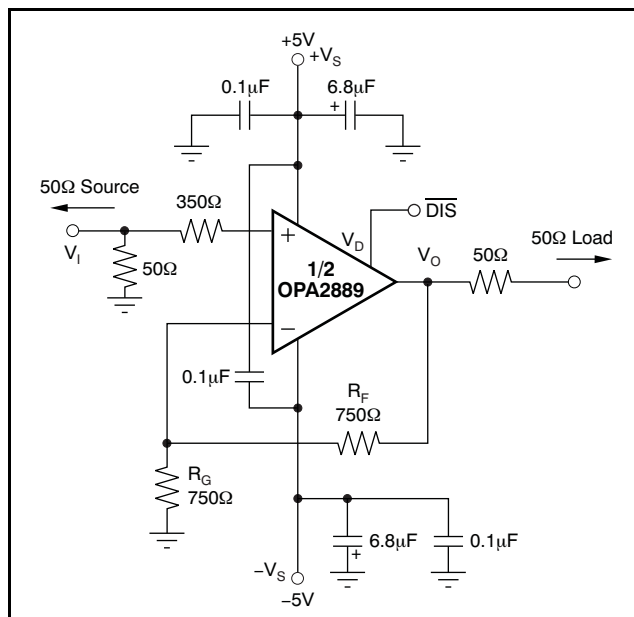
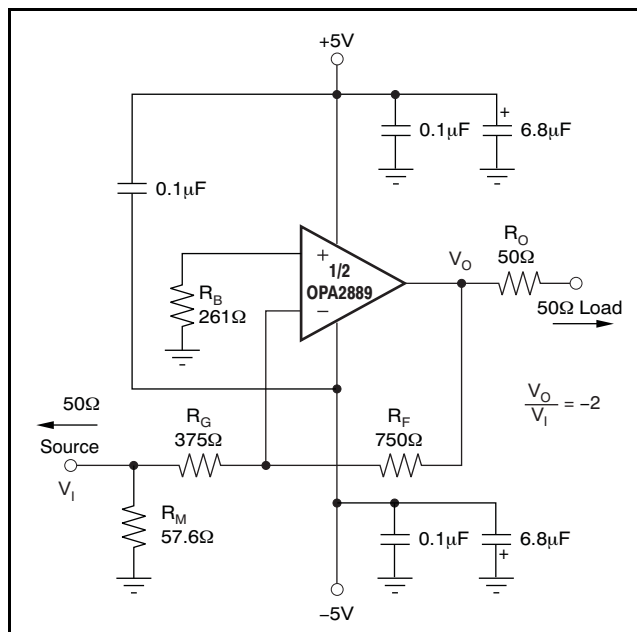

Figure 50. DC-Coupled, G = +2, Bipolar Supply, Specification and Test Circuit
Figure 60. Gain of –2V/V Example Circuit
At $T_A = +25^\circ C$, $G = +2V/V$, $R_F = 750\Omega$, and $R_L = 100\Omega$, unless otherwise noted. See Figure 50.
Figure 50 shows the dc-coupled, gain of +2V/V, dual power-supply circuit configuration used as the basis of the ±5V Electrical Characteristics and ±5V Typical Characteristics. This illustration is for one channel; the other channel is connected similarly. For test purposes, the input impedance is set to 50Ω with a resistor to ground and the output impedance is set to 100Ω. Voltage swings reported in the Electrical Characteristics are taken directly at the input and output pins, while output powers (dBm) are at the matched 50Ω load. For the circuit of Figure 50, the total effective load will be 100Ω || 1.5kΩ. The disable control line (MSOP-10 package only) is typically left open for normal amplifier operation. Two optional components are included in Figure 50. An additional resistor (350Ω) is included in series with the noninverting input. Combined with the 25Ω dc source resistance looking back towards the signal generator, this resistor gives an input bias current cancelling resistance that matches the 375Ω source resistance seen at the inverting input (see the DC Accuracy and Offset Control section). In addition to the usual power-supply decoupling capacitors to ground, a 0.1μF capacitor is included between the two power-supply pins. In practical printed circuit board (PCB) layouts, this optional-added capacitor typically improves the 2nd-harmonic distortion performance by 3dB to 6dB.
A good rule of thumb is to target the parallel combination of R_F and R_G (see Figure 50) to be less than approximately 400Ω. The combined impedance $R_F \parallel R_G$ interacts with the inverting input capacitance, placing an additional pole in the feedback network and thus, a zero in the forward response. Assuming a 2pF total parasitic on the inverting node, holding $R_F \parallel R_G < 400\Omega$ keeps this pole above 160MHz. By itself, this constraint implies that the feedback resistor R_F can increase to several kΩ at high gains. This increase in resistor size is acceptable as long as the pole formed by R_F and any parasitic capacitance appearing in parallel is kept out of the frequency range of interest.
Voltage-feedback op amps exhibit decreasing closed-loop bandwidth as the signal gain increases. In theory, this relationship is described by the Gain Bandwidth Product (GBP) shown in the Electrical Characteristics. Ideally, dividing GBP by the noninverting signal gain (also called the Noise Gain, or NG) predicts the closed-loop bandwidth. In practice, this principle only holds true when the phase margin approaches 90°, as it does in high gain configurations. At low gains (increased feedback factors), most amplifiers exhibit a more complex response with lower phase margin. The OPA2889 is compensated to give a slightly peaked response in a noninverting gain of 2V/V (see Figure 50). This compensation results in a typical gain of +2V/V bandwidth of 60MHz, far exceeding that predicted by dividing the 75MHz GBP by 2. Increasing the gain causes the phase margin to approach 90° and the bandwidth to more closely approach the predicted value of (GBP/NG). At a gain of +10, the 8MHz bandwidth shown in the Electrical Characteristics agrees closely with that predicted using the simple formula and the typical GBP of 75MHz.
The frequency response in a gain of +2V/V may be modified to achieve exceptional flatness simply by increasing the noise gain to 2.5V/V. One way to modify the response without affecting the +2V/V signal gain, is to add a 750Ω resistor across the two inputs, as shown in the circuit of Figure 50. A similar technique may be used to reduce peaking in unity-gain (voltage follower) applications. For example, by using a 750Ω feedback resistor along
The OPA2889 is a general-purpose, wideband, voltage-feedback op amp; therefore, all of the familiar op amp application circuits are available to the designer. Inverting operation is one of the more common requirements and offers several performance benefits. See Figure 60 for a typical inverting configuration where the I/O impedances and signal gain from Figure 50 are retained in an inverting circuit configuration.
In the inverting configuration, three key design considerations must be noted. The first is that the gain resistor (R_G) becomes part of the signal channel input impedance. If input impedance matching is desired (which is beneficial whenever the signal is coupled through a cable, twisted-pair, long PCB trace, or other transmission line conductor), R_G may be set equal to the required termination value and R_F adjusted to give the desired gain. This consideration is the simplest approach and results in optimum bandwidth and noise performance. However, at low inverting gains, the resultant feedback resistor value can present a significant load to the amplifier output. For an inverting gain of –2V/V, setting R_G to 50Ω for input matching eliminates the need for R_M but requires a 100Ω feedback resistor. This approach has the interesting advantage that the noise gain becomes equal to 2V/V for a 50Ω source impedance—the same as the noninverting circuits considered in Figure 60. The amplifier output, however, now sees the 100Ω feedback resistor in parallel with the external load. In general, the feedback resistor should be limited to the 200Ω to 1.5kΩ range. In this case, it is preferable to increase both the R_F and R_G values (see Figure 60), and then achieve the input matching impedance with a third resistor (R_M) to ground. The total input impedance becomes the parallel combination of R_G and R_M .
The second major consideration, touched on in the previous paragraph, is that the signal source impedance becomes part of the noise gain equation and influences the bandwidth. For the example in Figure 60, the R_M value combined in parallel with the external 50Ω source impedance yields an effective driving impedance of $50Ω \parallel 57.6Ω = 26.7Ω$. This impedance is added in series with R_G for calculating the noise gain (NG). The resulting NG is 2.86V/V for Figure 60, as opposed to only 2V/V if R_M could be eliminated as discussed above. Therefore, the bandwidth is slightly lower for the gain of –2V/V circuit of Figure 60 than for the gain of +2V/V circuit of Figure 50.
The third important consideration in inverting amplifier design is setting the bias current cancellation resistor on the noninverting input (R_B). If this resistor is set equal to the total dc resistance looking out of the inverting node, the output dc error, as a result of the input bias currents, is reduced to (Input Offset Current) $\times R_F$. If the 50Ω source impedance is dc-coupled in Figure 60, the total resistance to ground on the inverting input is 402Ω.
The OPA2889 provides good distortion performance into a 200Ω load on $\pm 5V$ supplies. Relative to alternative solutions, it provides exceptional performance into lighter loads and/or operating on a single +5V supply. Generally, until the fundamental signal reaches very high frequency or power levels, the 2nd-harmonic dominates the distortion with a negligible 3rd-harmonic component. Focusing then on the 2nd-harmonic, increasing the load impedance improves distortion directly. Remember that the total load includes the feedback network; in the noninverting configuration (see Figure 50), this total is the sum of $R_F + R_G$, while in the inverting configuration it is just R_F . Also, providing an additional supply-decoupling capacitor ($0.1\mu F$) between the supply pins (for bipolar operation) improves the 2nd-order distortion slightly (3dB to 6dB). Operating differentially also lowers 2nd-harmonic distortion terms (see the plot on the front page).
Evaluating these two equations for the OPA2889 circuit and component values (see Figure 50) gives a total output spot noise voltage of 18.2nV/√Hz and a total equivalent input spot noise voltage of 9.1nV/√Hz. This total includes the noise added by the bias current cancellation resistor (350Ω) on the noninverting input. This total input-referred spot noise voltage is slightly higher than the 8nV/√Hz specification for the op amp voltage noise alone. This result is the case as long as the impedances appearing at each op amp input are limited to the
previously recommend maximum value of 400Ω. Keeping both ($R_F \parallel R_G$) and the noninverting input source impedance less than 400Ω satisfies both noise and frequency response flatness considerations. Because the resistor-induced noise is relatively negligible, additional capacitive decoupling across the bias current cancellation resistor (R_B) for the inverting op amp configuration of Figure 60 is not required.
The balanced input stage of a wideband voltage-feedback op amp allows good output dc accuracy in a wide variety of applications. The power-supply current trim for the OPA2889 gives even tighter control than comparable amplifiers. Although the high-speed input stage does require relatively low $\pm 0.75\mu A$ input bias current, the close matching between them may be used to reduce the output dc error caused by this current. The total output offset voltage may be reduced by matching the dc source resistances appearing at the two inputs. This matching reduces the output dc error resulting from the input bias currents to the offset current times the feedback resistor. Evaluating the configuration of Figure 50, and using worst-case +25°C input offset voltage and current specifications, gives a worst-case output offset voltage equal to: